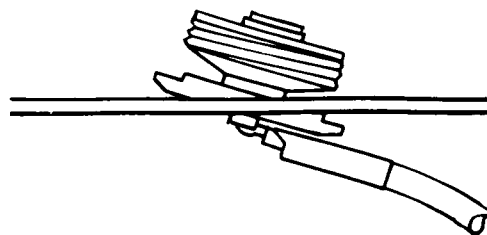

Figure 6. Bushing Assembly Insertion
Step 5. See Figure 6. The bushing assembly is now in a position to drop into the hole in the roof. It should be tilted at a slight angle and fed into the 3/4" hold. The threaded top will not fall through the hole.